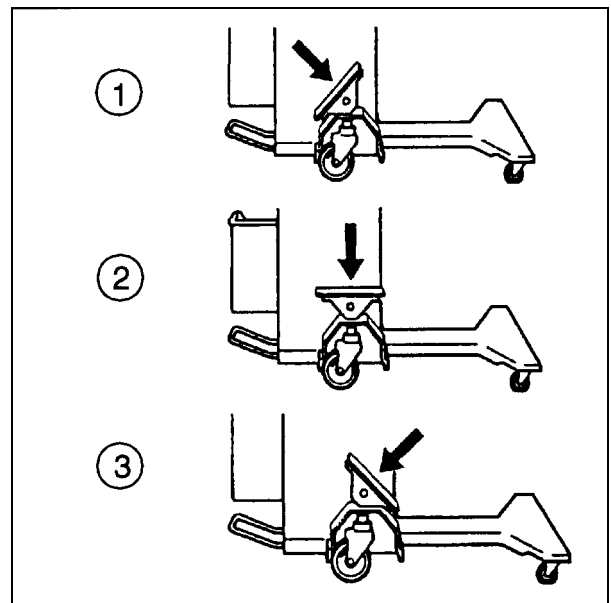

Fig. 1
- Pedal positions as shown in 1/Fig. 1
- Pedal positions as shown in 2/Fig. 1
- Pedal positions as shown in 3/Fig. 1